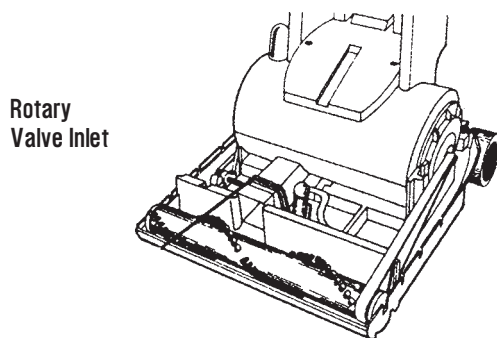

Figure 16b
6. Check the Rotary Valve Inlet to make sure it is not clogged with dirt or objects. (See Figure 16b.)